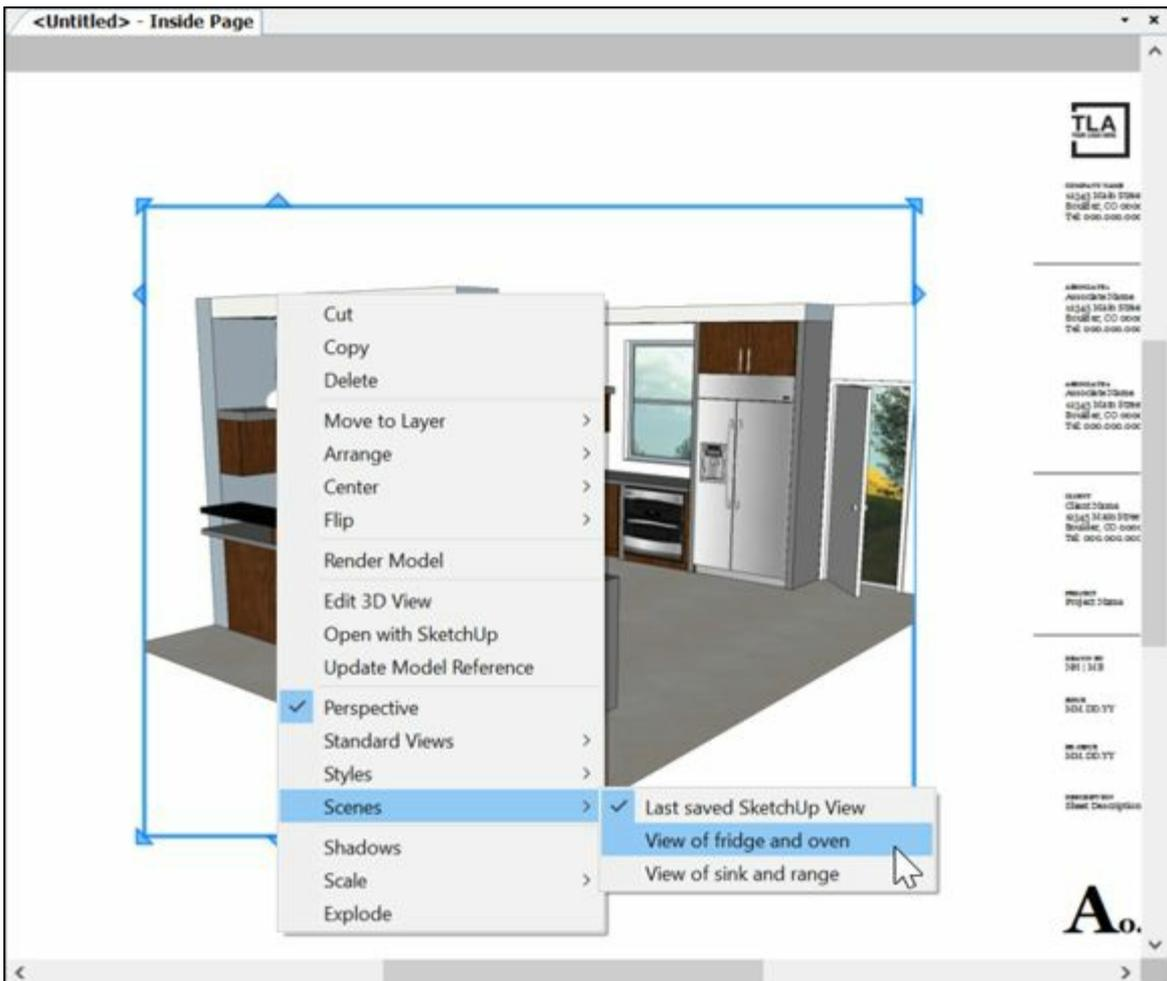

FIGURE 14-4: Associate a scene from your model with a viewport in LayOut.
5. **With the Select tool, context-click your viewport, choose Scenes, and then choose the name of the scene you want to appear in this viewport, as shown in Figure 14-4.**